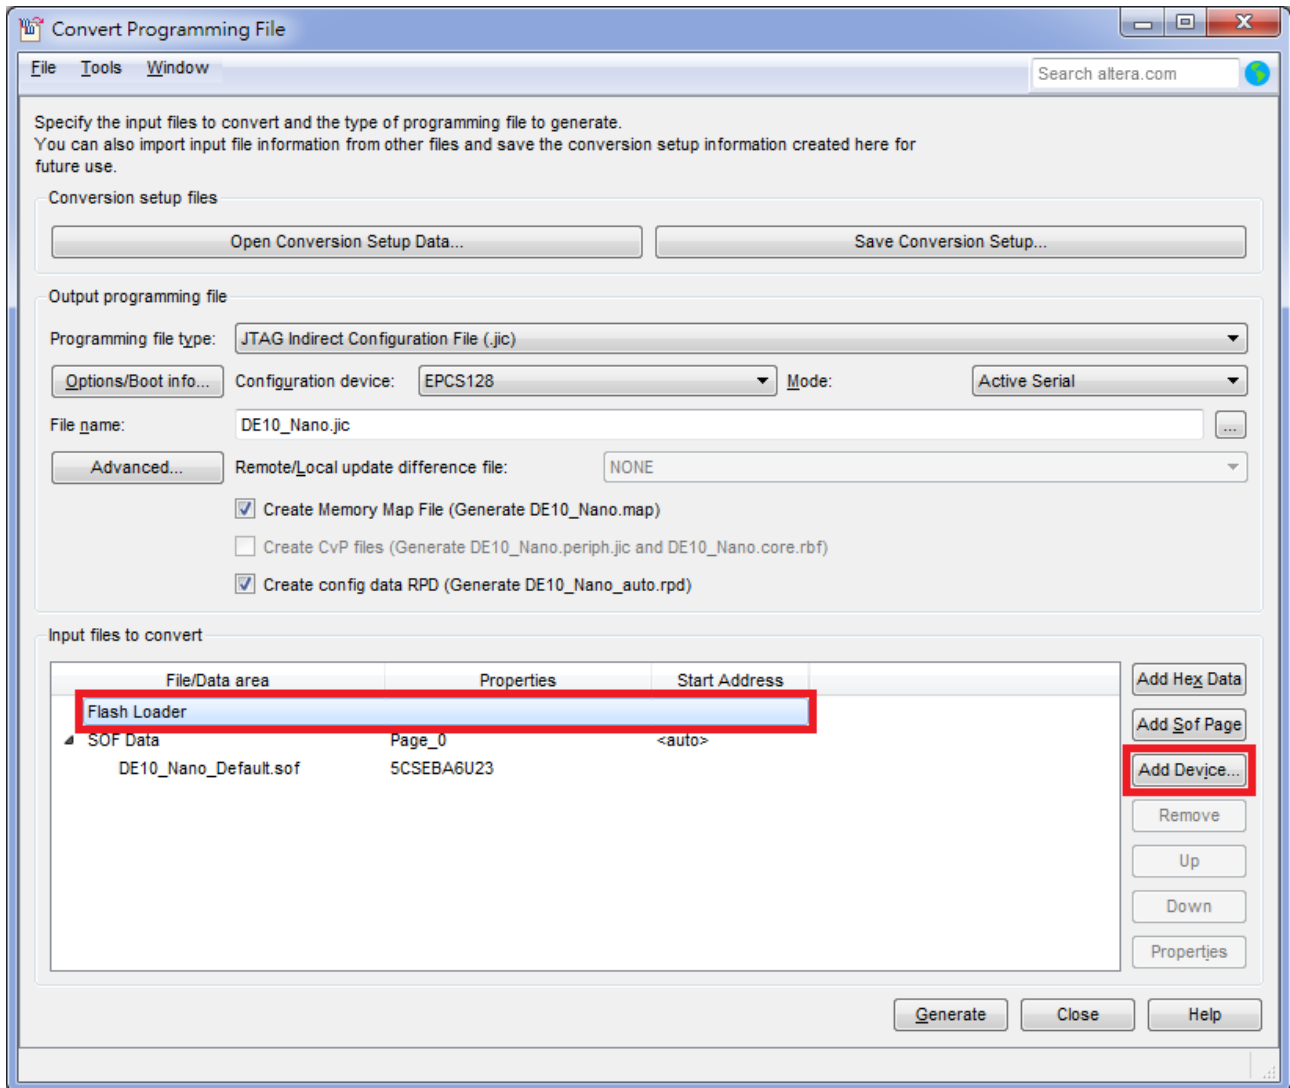

Figure 8-4 Click on the “Flash Loader”
10. Click on the Flash Loader and click Add Device, as shown in **Figure 8-4**.